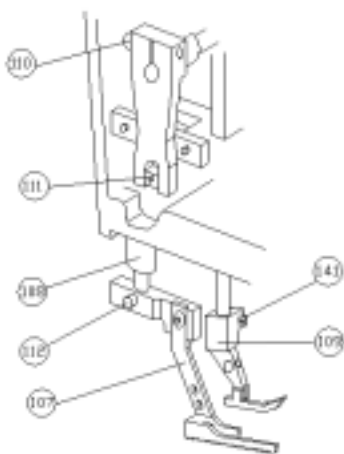

FIG.43
Insert the mechanically actuated pressure foot (107) in its bar, in a cycle of the machine in which feet dog is below the throat plate. FIG. 43. Adjust the elbow joint to obtain a distance of about 0.3 mm between the guide and the pressure foot transport support (108). Once this has been done, block the foot, which should rest on the throat plate and be set parallel to it. Insert the stitch mechanism (see sec.26) and the jointed pressure foot (109) in there bar. Turn the hand-wheel to bring the feet dog to the lowest point of its stroke. Fix the pressure foot (109) by pushing it onto the throat plate and check that it is parallel to the mechanically actuated pressure foot and the throat plate. Check that the two pressure feet (107 - 109) rise the same distance above the throat plate. This distance can be adjusted by the screw (141). FIG. 43.